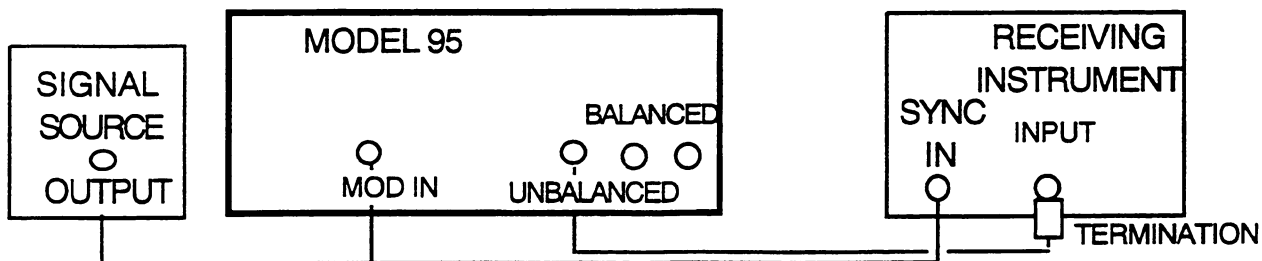

Figure 3-12. Model 95 AM and FM/VCG Setup
In Amplitude Modulation (AM), a modulating signal controls the magnitude of the Model 95's output. The Model 95 (AM selected) produces the carrier (frequency, function, and amplitude). All waveforms, including Arb waveforms, can be amplitude modulated. When the AM mode is selected (Local Operation), the unit shows a scale factor (x.xV=FS) which represents the peak to peak voltage required to produce full scale (100%) modulation. The scale factor displayed depends on the Amplitude value. For example, for an amplitude of 7.5 Vpp, the AM scale factor will be 4V=F.S. (100%). Also the input value varies linearly which means for a 4V=F.S. scale factor a 2Vpp input signal produces 50% modulation. Exceeding 100% modulation can cause distorted outputs. In AM, the continuous Amplitude is limited to 7.5 Vpp or less. Figure 3-12 illustrates the Model 95 AM setup.
In the Suppressed Carrier Modulation mode (SCM), the Model 95 operates much the same as the AM mode, except unmodulated output level will be zero volts. In Suppressed Carrier Modulation (SCM), a modulating signal controls the magnitude of the Model 95's output. The Model 95 (SCM selected) produces the carrier (frequency, function, and amplitude). All waveforms, including Arb waveforms, can be modulated. When the SCM mode is selected (Local Operation), the unit shows a scale factor (2V/V) which represents Volts Output/Volts Input for required to produce an output. For example, the 2V/V scale factor means a 1V input will produce a 2V output. Figure 3-12 illustrates the Model 95 SCM setup.